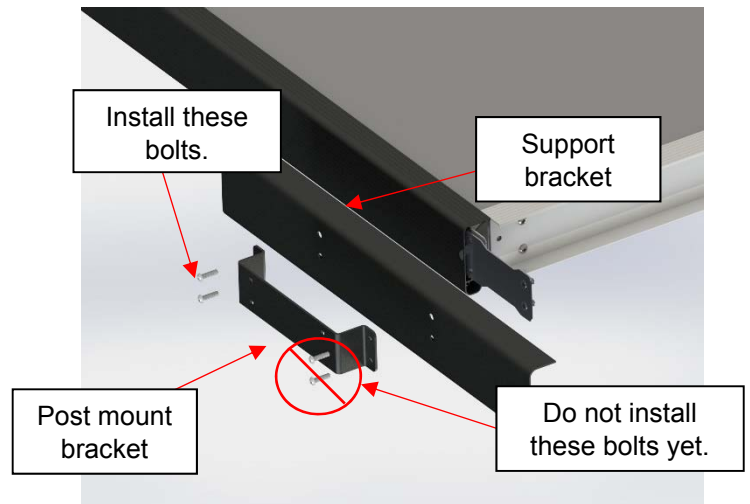

Figure 18
15) Assemble the support bracket at the other end of the cover (Figure 18).
16) Align the holes of the support bracket, the post mount bracket and the C-channel by hand. Assemble them with the 1/4-20 x 1" hex drive rounded head screws (5/32" [4 mm] [5 ft-lb torque]). Figure 18).